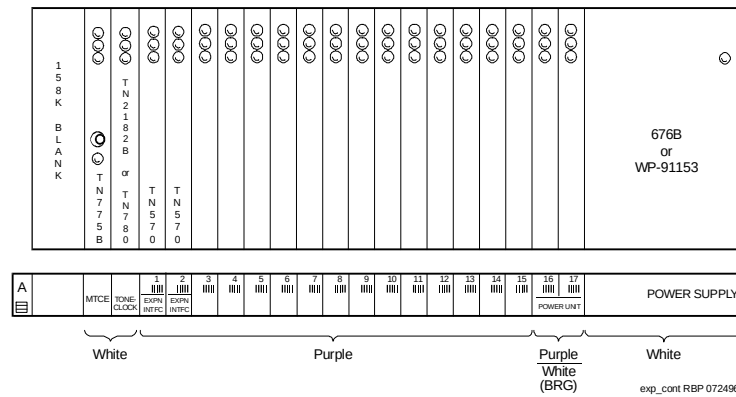

Figure 9-7. Circuit-Pack Locations in DEFINITY ECS R5si Expansion Control Cabinet
1. See WARNING and NOTE. Using the Figure 9-7 and the label, install the power unit and DEFINITY ECS R5si control circuit packs into the new enhanced control cabinet.
2. See preceding WARNINGS and following NOTE. Install the port circuit packs, previously removed, into the "A" cabinet using Figure 9-7 and the label as a guide.